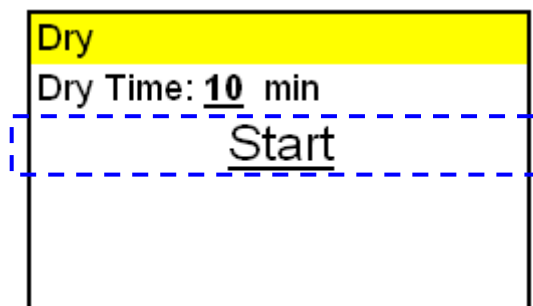
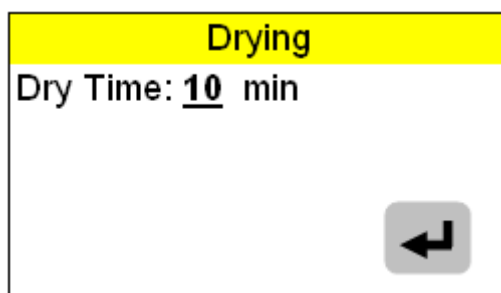

Figure 65
Figure 66
- E. Press  or  button to move the cursor to the “Start” (Figure 65), change the dry time, and then press  button to confirm dry time, as shown in Figure 66.